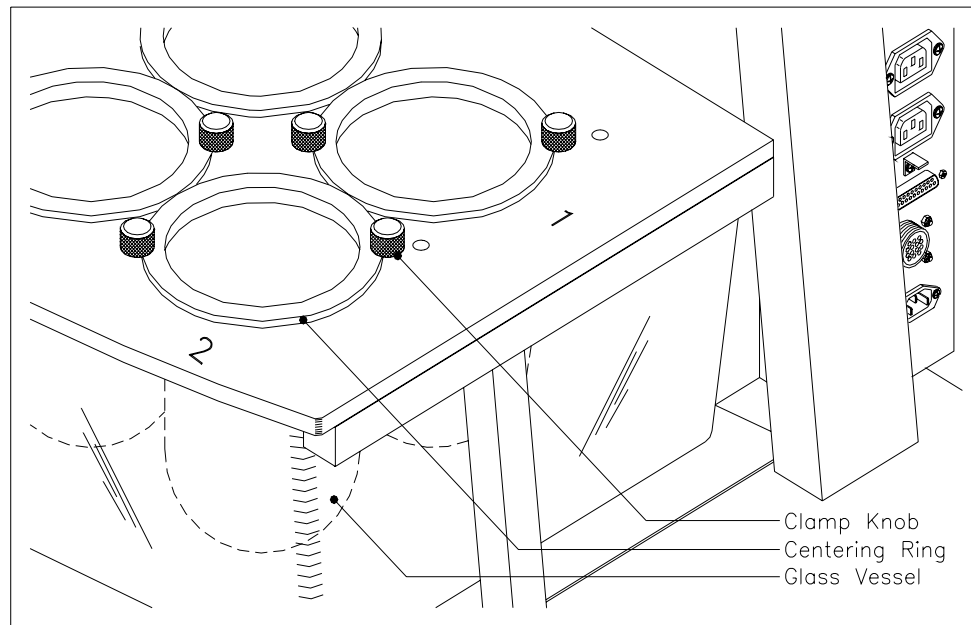

Figure 4-11: Positioning the Vessels
8. Install the vessel centering rings in each of the vessel openings in the base plate. Push rings down into each hole until it snaps in. (Use of these rings ensures that the vessels are centered so that they meet regulatory requirements). (see Figure 4-11)
9. The vessel positions are on the base plate. Insert the number of vessels normally used in the vessel centering rings, starting with Position 1. Turn the clamp knobs over the lip of the vessel to hold each vessel in place. (see Figure 4-11)